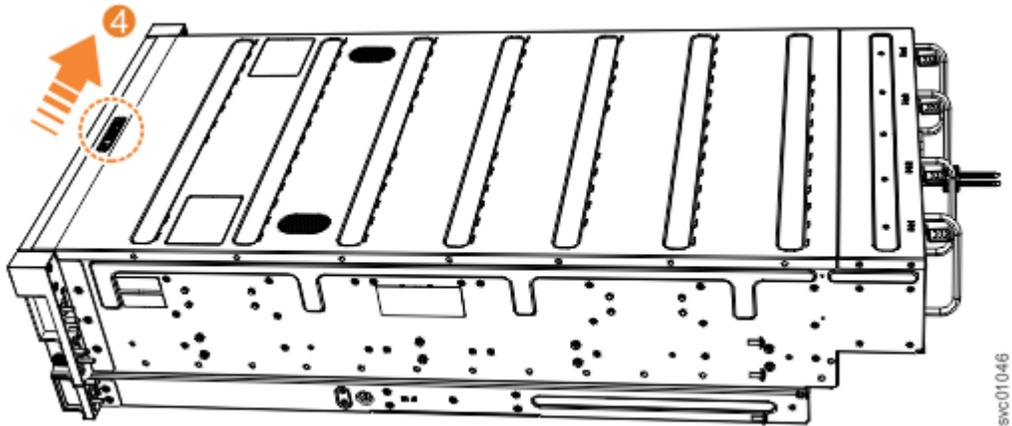

Figure 80. Locking the top cover
- Lock the cover into position by sliding the release lever (4), as shown in Figure 80 on page 73